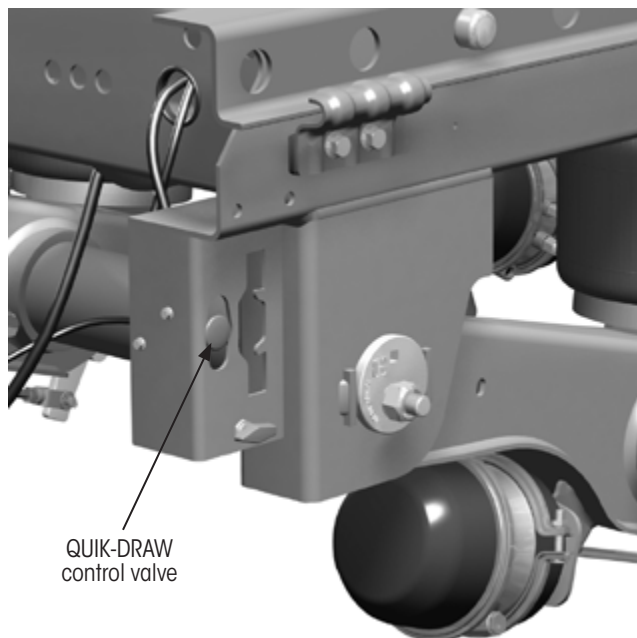

Figure 1: QUIK-DRAW control valve location
4. **Pull** the QUIK-DRAW control valve knob (Figure 1) out to its fully extended position to pneumatically retract the locking pins.
10. **Verify** proper QUIK-DRAW operation by **pulling** the QUIK-DRAW control valve knob (Figure 1 on page 4) out to its fully extended position.
9. **Verify** proper QUIK-DRAW® operation by **pulling** the QUIK-DRAW control valve knob (Figure 1 on page 4) out to its fully extended position.